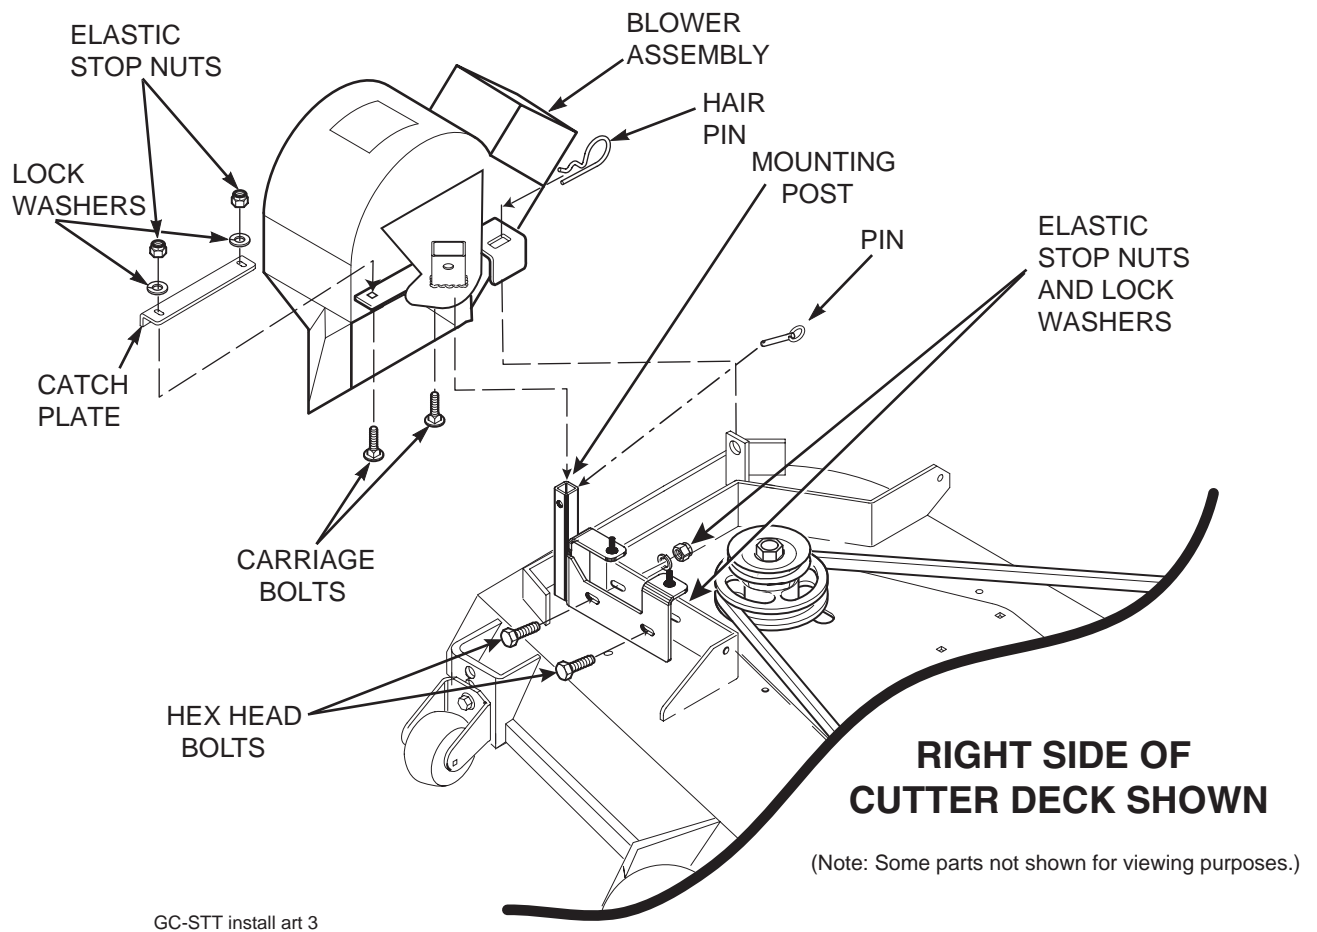

FIGURE 5-3
- Install the blower mounting bracket to the deck using 1/2-13 x 1-1/2" hex head bolts (p/n 04001-71), 1/2" spring lockwashers (p/n 04030-06), and 1/2-13 elastic stop nuts (p/n 04021-07). See Figure 5-3, Page 11. Do not fully tighten the hardware at this time.
- Install the catch plate (p/n 423297) to the blower assembly using 3/8-16 x 1-1/4" carriage bolts (p/n 04003-11) facing upward. See Figure 5-3, Page 11. Secure with 3/8" spring lockwashers (p/n 04030-04) and 3/8-16 elastic stop nuts (p/n 04021-09). Do not fully tighten the hardware at this time.
- Install the blower assembly to the mounting bracket and secure with the mounting pin and large hair pin. See Figure 5-3, Page 11.